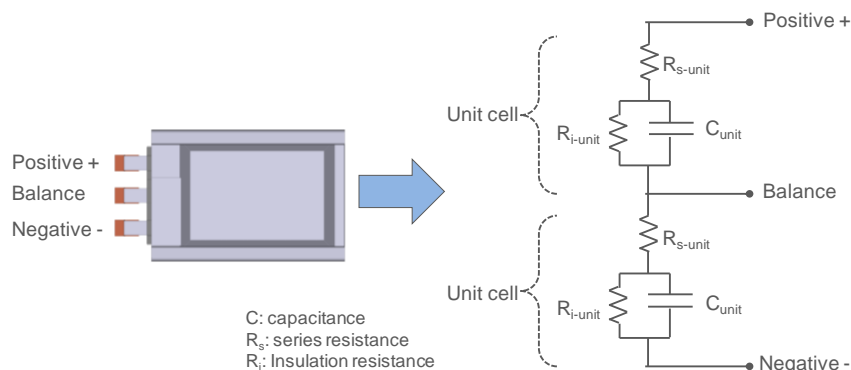
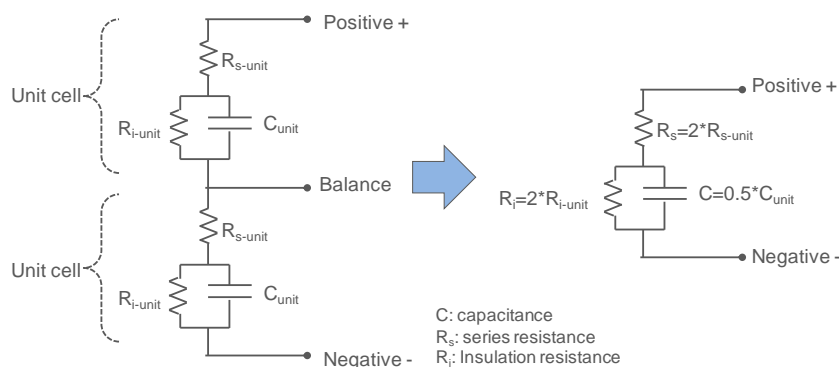

Fig. 6 Murata's supercapacitor has two of unit cell in one package
Fig. 7 Simple equivalent circuit model
In general, capacitors can be described by using combination of a capacitor (C), a series resistance (R_s) and an insulation resistance (R_i). Murata's supercapacitors have two unit cells (unit capacitors) which are connected in series in one package. Therefore an equivalent circuit model is described as Fig. 6. The model can be combined to a simpler one such as Fig. 7. In this case, total capacitance value is equal to half of the unit cell and total resistance values are equal to two times of the unit cell.